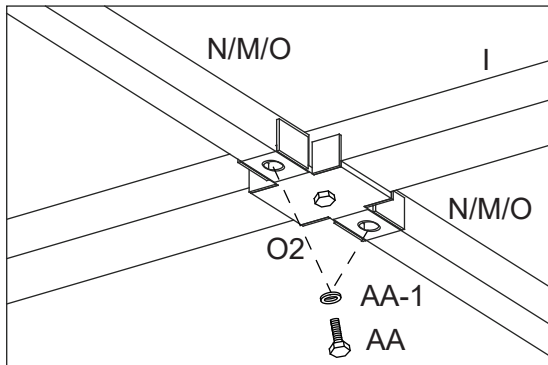

Figure 15-3
15.3: Attach the Horizontal Main Roof Supports (N, M and O) to the Connector (O2) using Bolts (AA) and Steel washer (AA-1). See Figure 15-3.